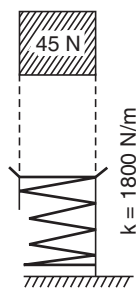

Fig. 9.10
**Example 9.17.** A 45 N weight is dropped on a pan 450 mm below it. Pan is mounted on spring (spring constant 1800 N/m). Assume impact to be perfect plastic, weight of pan,  $W_p = 113 \text{ N}$  as shown in Fig. 9.10. Determine: